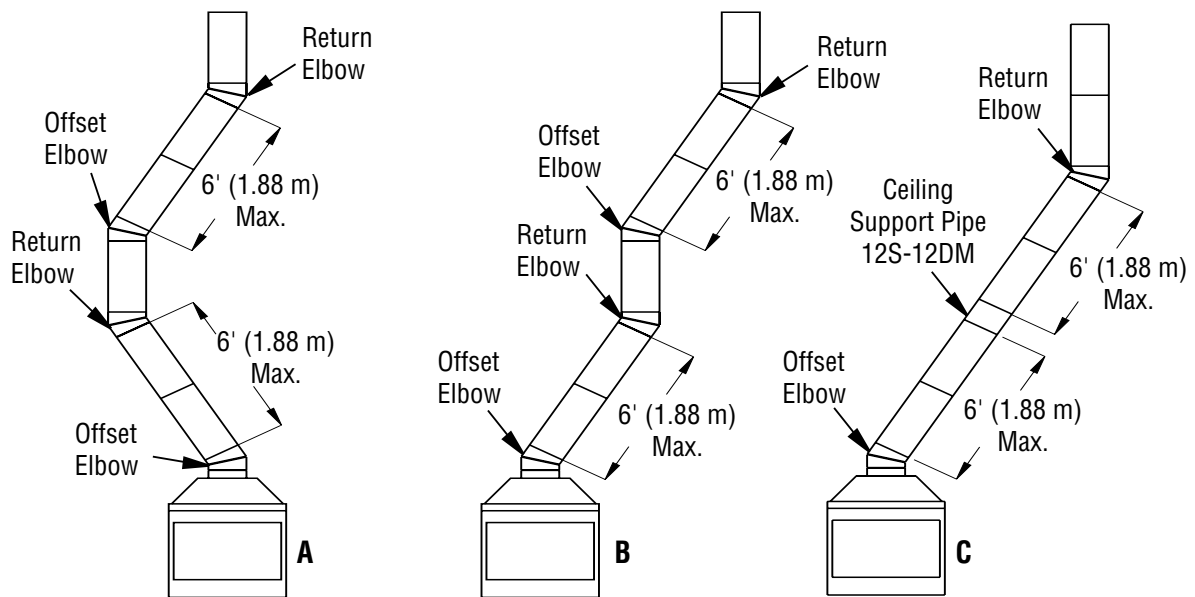

Figure 12 - Typical Offset Terminations
3. Maximum length of pipe between supports (return elbow or 12S-12DM) is 6' of angle run. Maximum of two 6' angle run sections per chimney system (see Figure 12, page 11).